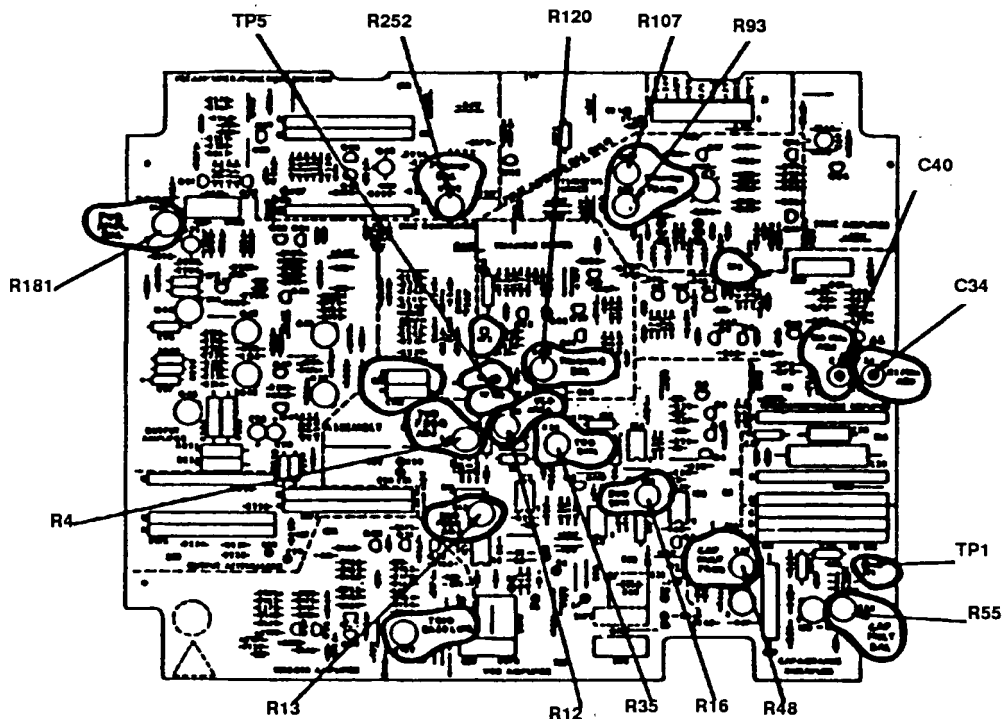

Figure 2. Test instrument - bottom view.
- (1) Adjust R12 (fig. 2) for minimum shift.
- (2) Adjust R13 (fig. 2) for greater than 5 ms.
- (3) Adjust R16 (fig. 2) for best symmetry  $\pm 0.5$  percent (R).
- (4) Repeat **a** (6) and (7) above due to interaction.
- (5) Adjust R35 (fig. 2) for best symmetry  $\pm 0.5$  percent (R).
- (1) Repeat **a** (2) above.
- (2) Connect oscilloscope to audio analyzer output. Sync oscilloscope with **SYNC OUT** using 50 Ω feedthrough termination.
- (3) Adjust R120 (fig. 2) for symmetrical wave form as indicated on oscilloscope.
- (4) Slightly adjust R93 and R107 (fig. 2) for minimum distortion.
- (5) If R93 or R107 (fig. 2) is adjusted near a stop, recenter both adjustments and repeat paragraph **9** above.
- (1) Set **FREQ/PERIOD MULTI (Hz/s)** switch to **1 K** and frequency dial to **2.0**.
- (2) Adjust R4 (fig. 2) until frequency counter indicates between 1990 and 2010 Hz (R).
- (3) Set **FREQ/PERIOD MULTI (Hz/s)** switch to **10**.
- (4) Adjust R48 (fig. 2) until frequency counter indicates between 19.9 and 20.1 Hz (R).
- (5) Set **FREQ/PERIOD MULTI (Hz/s)** switch to **10M**.
- (6) Adjust C40 (fig. 2) for best intolerance condition while varying frequency dial over entire range (R).
- (7) Set **FREQ/PERIOD MULTI (Hz/s)** switch to **1 M**.
- (8) Adjust C34 (fig. 2) for best intolerance condition while varying frequency dial over entire range (R).